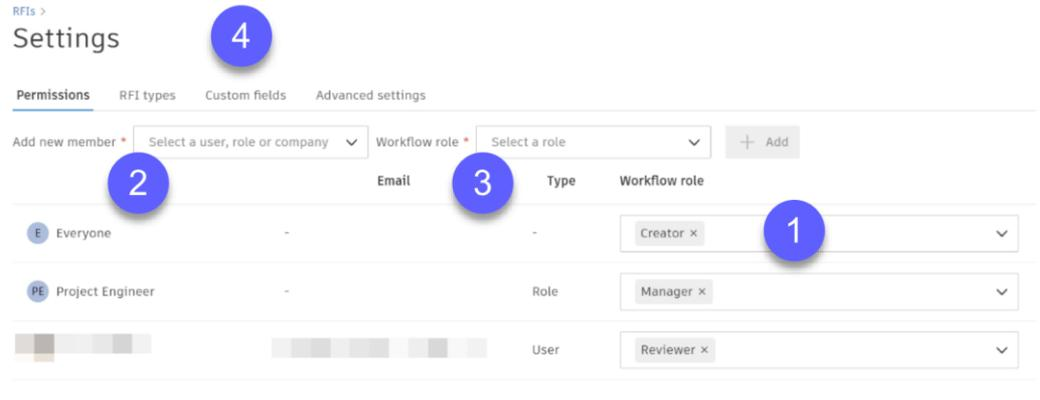

Figure 34
Create permissions by role: On the Permissions tab, leave the default of Everyone designated as a Creator (Figure 34, mark 1) but create the following additional permissions:
- For yourself, select your name in the Add new member box (Figure 34, mark 2) and select the Reviewer designation in the Workflow role box (Figure 34, mark 3), then click the Add button.